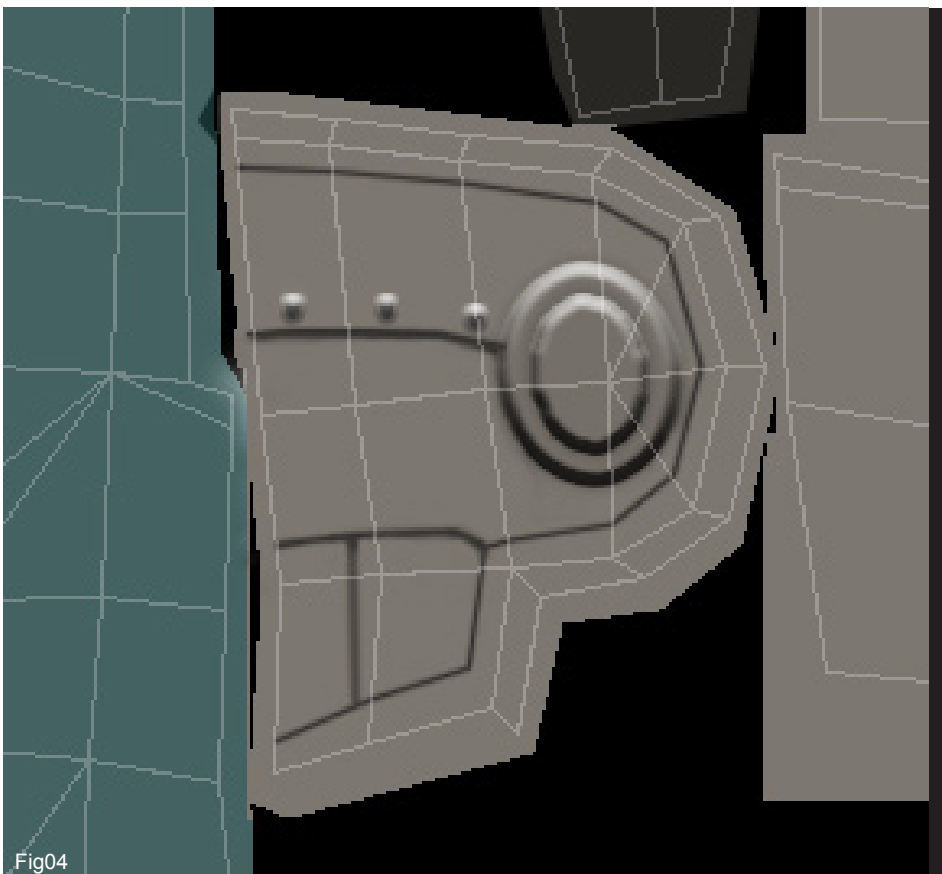

Fig04
4. Now add one more layer and start to draw in some outlines that will trace the shape of the elbow pad and create some extra detail, as seen in Fig.04.